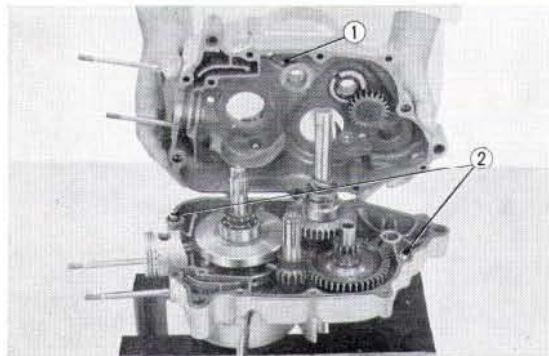

Fig. 2.45 ① R crankcase ② Dowel pins
5. Assemble the right crankcase and torque the mounting screws uniformly. (Fig. 2.45)